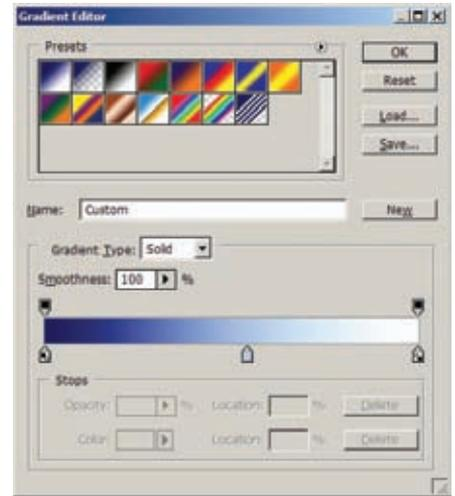

Figure 8.30
- In your image, click in the approximate center (it doesn't have to be perfect) and drag out toward the side. This will paint in the circular gradient. The goal is to get a gradient that looks like Figure 8.30.